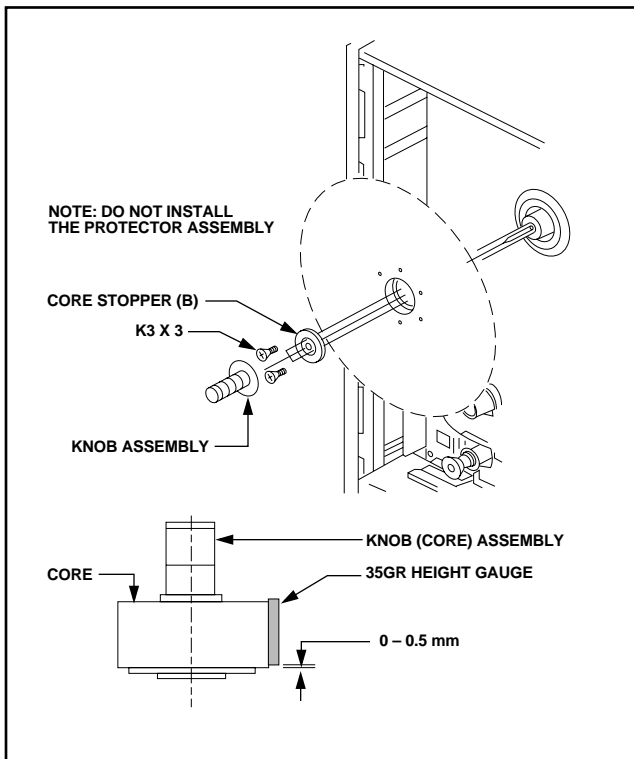

Figure 8
- Install the core stopper, knob (core) assembly and core without installing the protector assembly. (See Figure 8.)